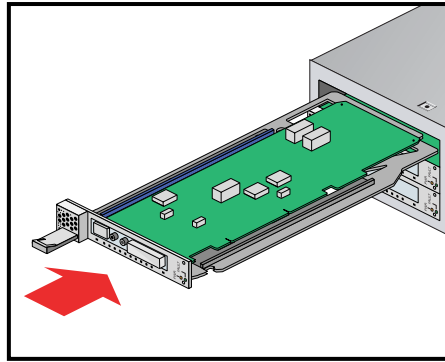

Figure 6-22 Installing a Card in a Slot
7. Insert the carrier-mounted PCI card into the vacant slot, using the slot guide, as shown in Figure 6-22.